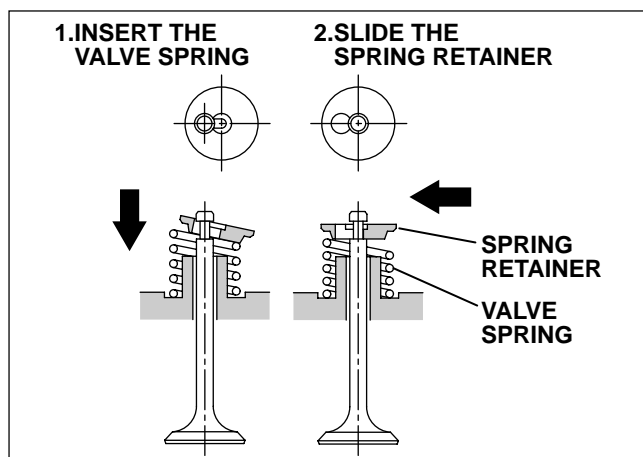

Fig. 5-23
- (1) Before reassemble, apply 4 cycle engine oil (10W-30) to cylinder inner surface, piston slide face and valve guide holes.
- (2) Install valve spring and spring retainer as shown in Fig. 5-23. Push spring retainer down until valve stem comes through the hole of spring retainer, then slide the spring retainer.